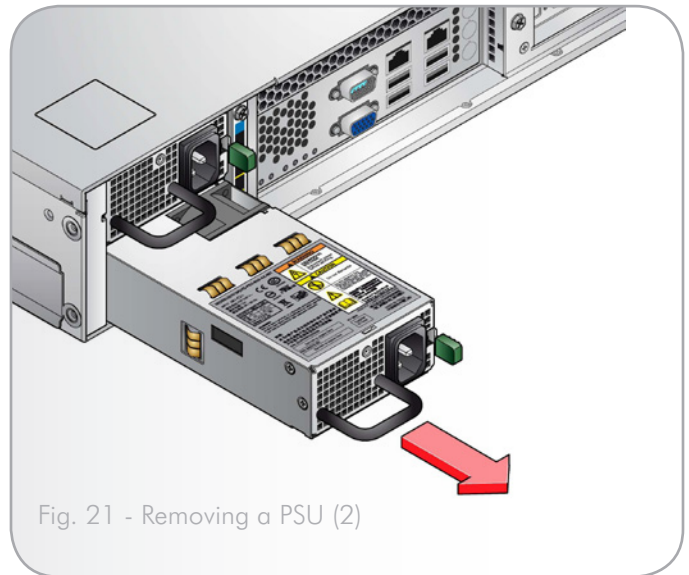

Fig. 21 - Removing a PSU (2)
4. Grip the handle and withdraw the PSU from the mounting cage (Fig. 21).